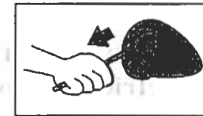

Figure 1
1. **Antenna Installation** - Pull Antenna through the back of the head to the front. Align flat section of Antenna base to Key inside of head. Pull until it snaps into place. (See Fig. 1)